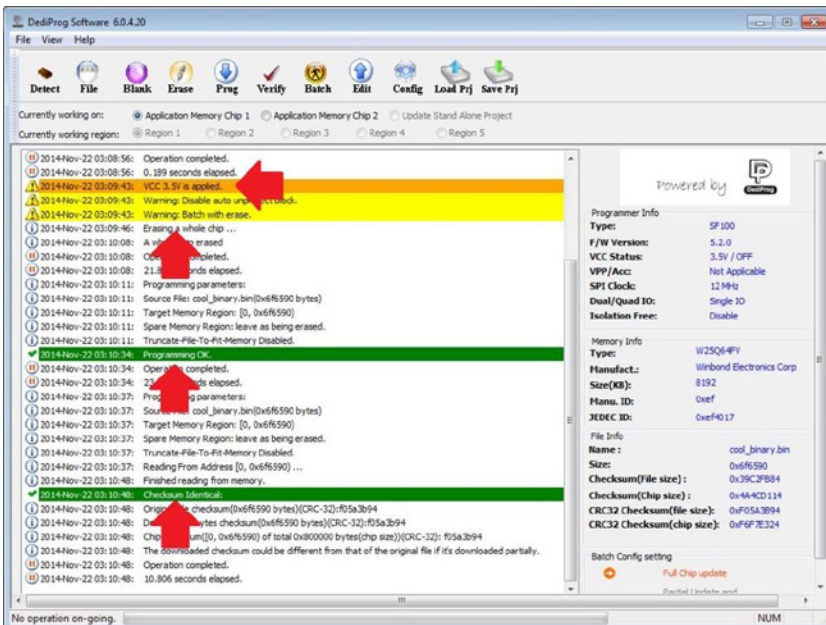

Figure 2-19. Erasing, programming, and verifying steps in DediProg SF100
- Now it is time to program. Click the Erase option to erase the SPI flash memory. Then click **Prog** to program the SPI flash memory. Finally, click **Verify** to make sure that your binary was written correctly in the memory. Figure 2-19 shows the process of each step. If the verification fails, repeat this step until you have the SPI flash memory properly programmed. This easily happens if you did not select the 3.5V mentioned in step 3.